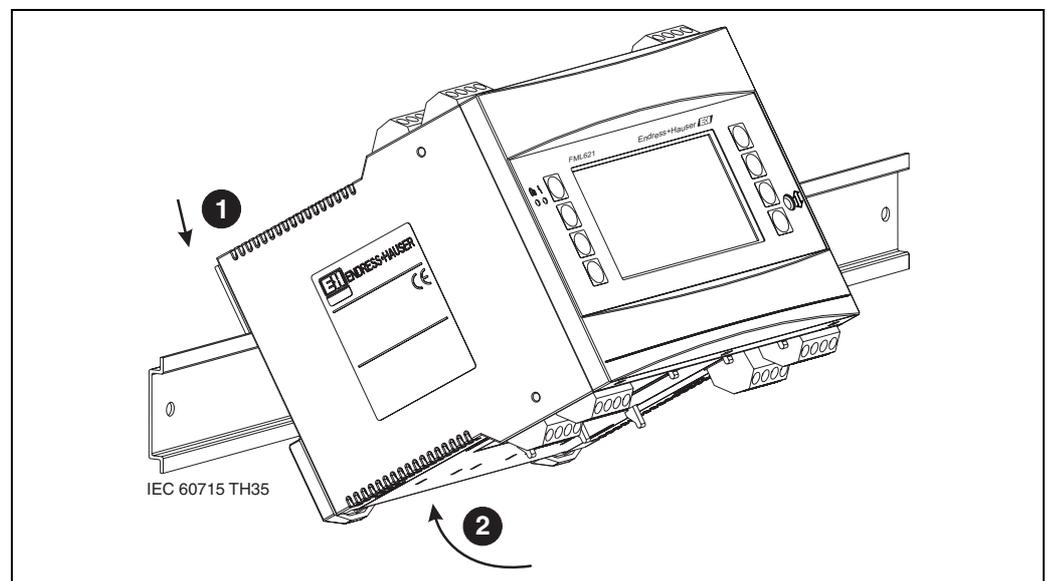

Fig. 2: Mounting device on top-hat rail
To fix the device to the top-hat rail, first hang it on the top-hat rail. Press down gently to engage the lower top-hat rail clamp (see Fig. 2, item 1 and 2).